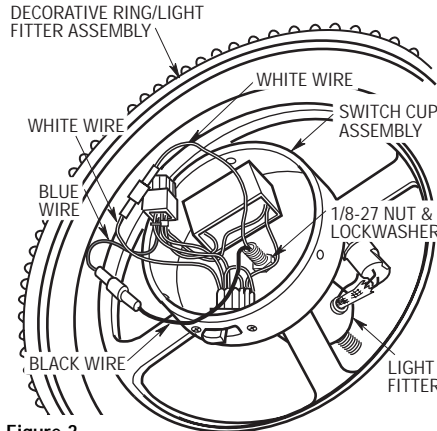

Figure 3
- 6. Remove the plastic plug from the center hole in the switch cup assembly. Pass the two light fitter wires through the center hole, then screw the switch cup assembly onto the light fitter threaded nipple (Figure 3). Install a lockwasher and 1/8-27 nut (supplied) on the threaded nipple to secure the switch cup assembly to the decorative ring/light fitter assembly.
- 7. Connect the white wire from the light fitter to the white wire in the switch cup assembly (Figure 3). Connect the black wire from the light fitter to the blue wire in the switch cup.